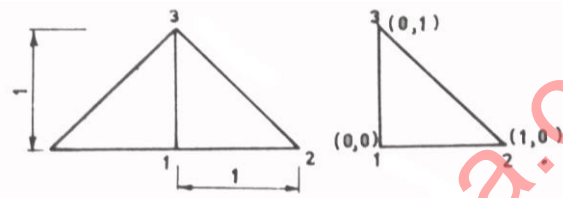

Figure 3
7. Derive the element stiffness matrix for the following axisymmetric ring of triangular cross section (figure 3). [10]